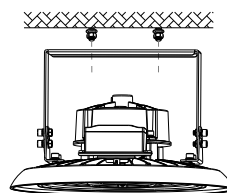
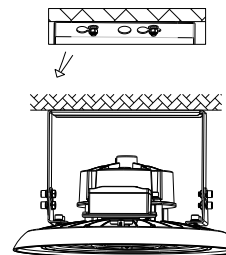

Figure 5
Figure 6
3. Align the bracket hole with screw hole. (Figure 5), and push the fixture to one side (Figure 6) and fix it.